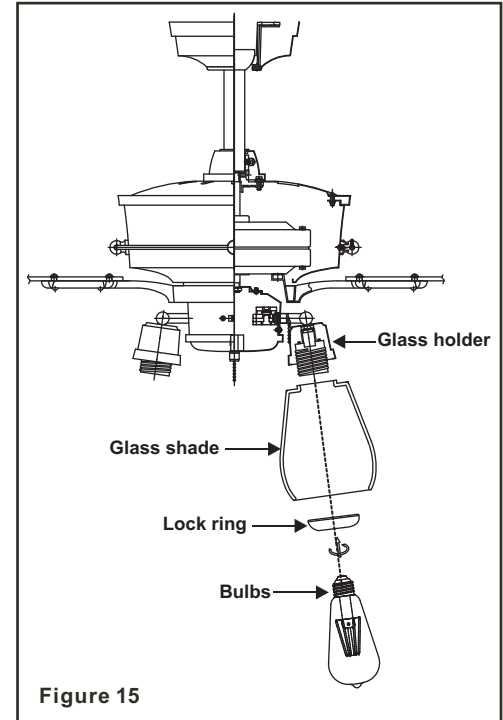

Figure 15
Step 3. Remove the lock ring from the socket by turning the lock ring counter-clockwise until it unlocks. Insert the glass into the glass holder and turn the lock ring clockwise to tighten the glass. Repeat for the remaining glass. (Fig. 15)